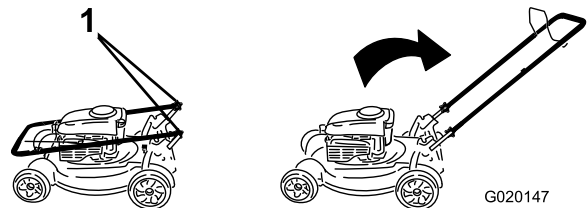

Figure 3
2. Move the handle to the operating position (Figure 3).
3. Install the handle knobs and tighten them firmly by hand (Figure 3).